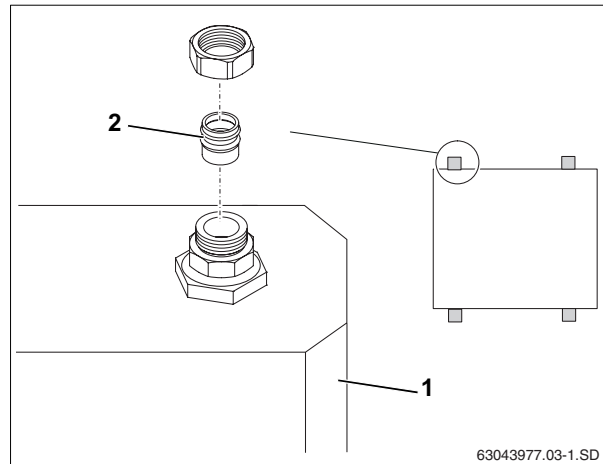

Fig. 4 Replacing compression rings on complete station
The solar pump station KS0110 (Fig. 4, **Item 1**) has four compression fittings for 5/8" (18 mm) copper pipes.
- Replace existing compression rings with 5/8" x 1/2" (18 mm x 15 mm) reducer (Fig. 4, **Item 2**).